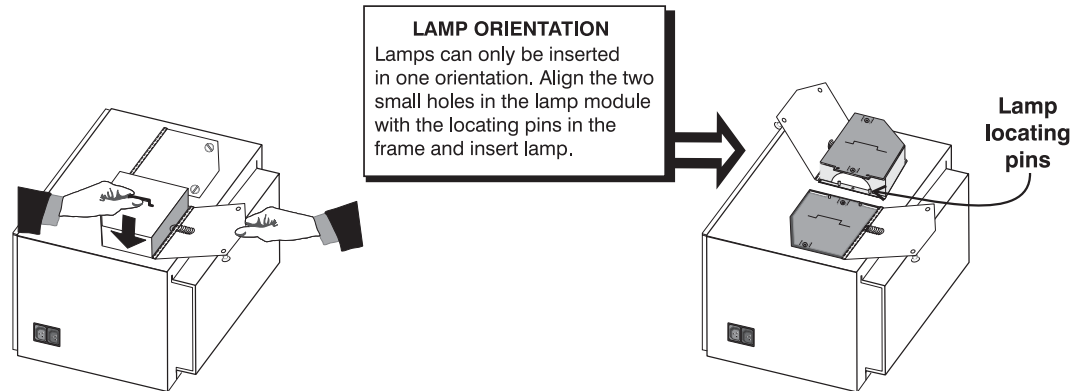

Figure 4.5
- 4) **INSERT NEW LAMP:** a) Hold the new replacement lamp above the lamp compartment. Align the two holes on the lamp module with the locating pins located on the edge of the lamp compartment. See Figure 4.5.